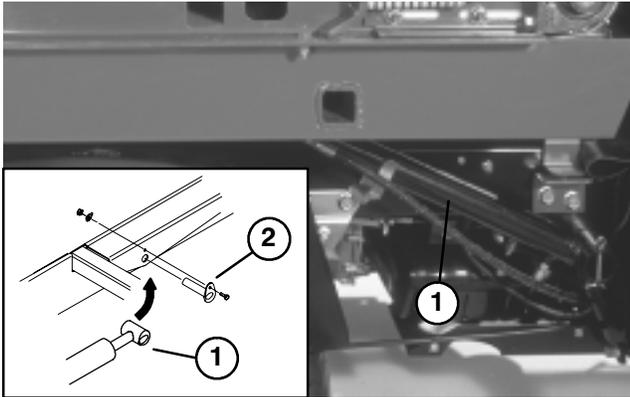

Figure 9
2. Secure each cylinder pin to topdresser base with a 1/4–20 x 3/4” lg. capscrew, flatwasher and nut (Fig. 9).